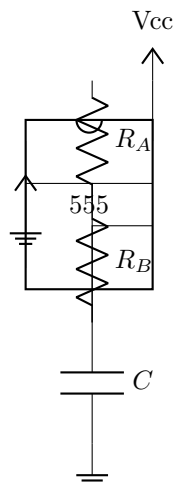

Figure 4: Astable Multivibrator Circuit
1. Significant Figures: 4 and 7.